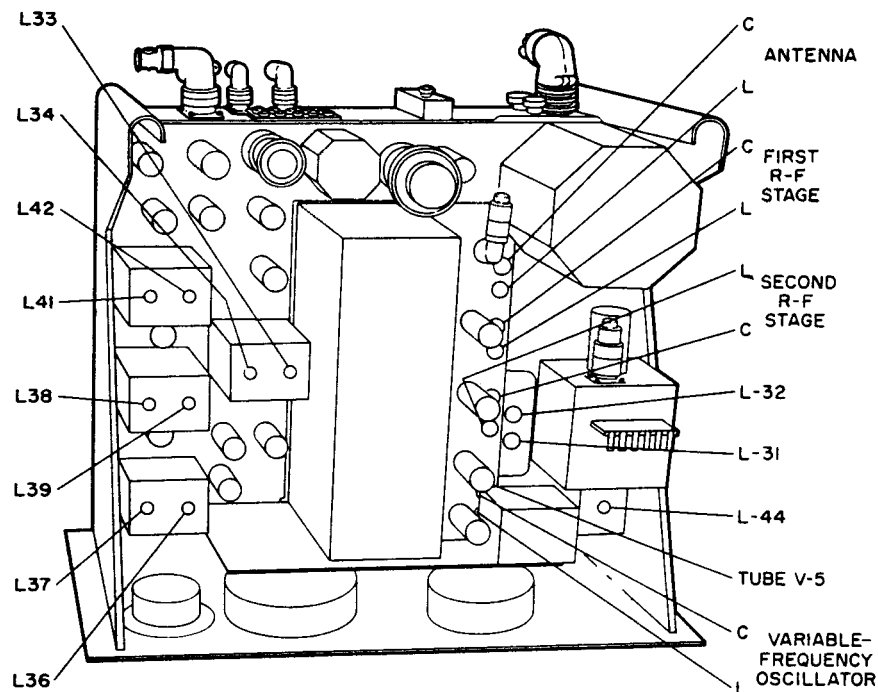
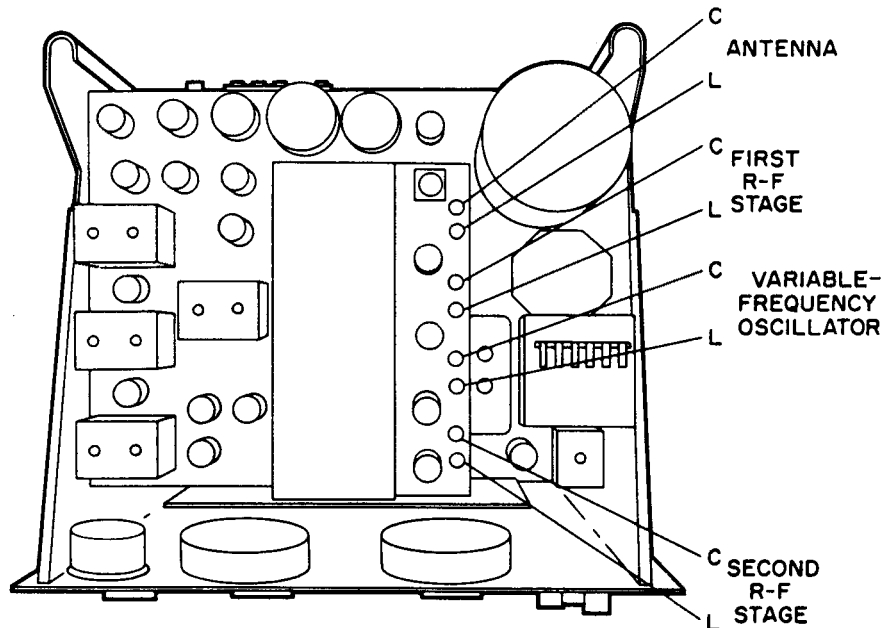

Figure 2-1. Radio Receiver SP-600-JX-17, Top View
Figure 2-2. Radio Receiver SP-600-JX-21, Top View of R-F Section
- (1) Disconnect the power line plug of the radio receiver from the power source.
- (2) Disconnect the loudspeaker from the AUDIO OUTPUT terminals.
- (3) Disconnect the antenna cable from the antenna input connector.
- (4) Disconnect the BFO, IFO, DIODE OUTPUT, and AVC connections from their respective terminals.
- (5) Remove the eight screws holding the radio receiver in the relay rack and remove the receiver from the rack.
- (6) Loosen the four thumb screws holding the top cover to the radio receiver and remove the cover.
- (7) Connect the 600-ohm, 2-watt resistor between the AUDIO OUTPUT terminals on the rear of the radio receiver.
- (8) Remove the shield from tube V-5 (figure 2-1) and remove the tube.
- (9) Plug tube V-5 into the tube socket test adapter and plug the adapter into the tube socket on the radio receiver.
- (10) Insert the power line plug of the radio receiver into a 115-volt, 60-cycle power source.
- (11) Insert the power line plug of Electronic Multimeter TS-505()/A into a 115-volt, 60-cycle power source.
- (12) Connect the black test lead to the COMMON binding post of the multimeter.
- (13) Connect an alligator clip to the other end of the black test lead and clip the lead to one side of the 600-ohm resistor connected between the AUDIO OUTPUT terminals on the rear of the radio receiver.
- (14) Connect an alligator clip to the a-c probe of the multimeter and clip the probe to the other side of the 600-ohm resistor.
- (15) Set the RANGE switch on the multimeter to the 40V/R x 10K position.
- (11) Set the MULTIPLIER switch on the signal generator to the 10 position and rotate the MICROVOLTS control on the signal generator fully clockwise.
- (12) Adjust the CARRIER CONTROL on the signal generator until an indication of 100 is obtained on the signal generator output meter.
- (13) Adjust the MICROVOLTS control on the signal generator until an indication of 20 volts is obtained on the multimeter.
- (14) Set the METER READS switch on the signal generator to the % MOD position and the MOD SELECTOR switch on the signal generator to the 400 cycle position.
- (15) Adjust the % MODULATION control on the signal generator until an indication of 30 is obtained on the lower scale of the signal generator output meter.
- (16) Set the METER READS switch on the signal generator to the RF position.
- (17) Adjust, in turn, coils L-42, L-41, L-39, L-38, L-36, and L-32 (figure 2-1) until a maximum indication is obtained on the multimeter.
- (18) Set the SELECTIVITY switch on the radio receiver to the . 2 XTAL position and adjust the signal generator tuning dial until a maximum indication is obtained on the multimeter.
- (19) Set the SELECTIVITY switch on the radio receiver to the 3 NON-XTAL position and repeat step b(17).
- (20) Set the SELECTIVITY switch on the radio receiver to the 1. 3 XTAL position and adjust coil L-37 (figure 2-1) until a maximum indication is obtained on the multimeter.
- (21) Set the MOD-CW switch on the radio receiver to the CW position.
- (22) If Radio Receiver SP-600-JX-17 is being aligned, set the BFO-AVC switch to the INT BFO - FAST position.
- (23) Set the BEAT OSC control on the radio receiver to 0 and the MOD SELECTOR switch on the radio receiver to the OFF position.
- (24) Allow 15 minutes for the receiver to warm up then adjust coil L-44 (figure 2-1) until an indication of zero volts is obtained on the multimeter.
- (25) Rotate the CARRIER CONTROL on the signal generator fully counterclockwise and the MICROVOLTS control on the signal generator fully clockwise.